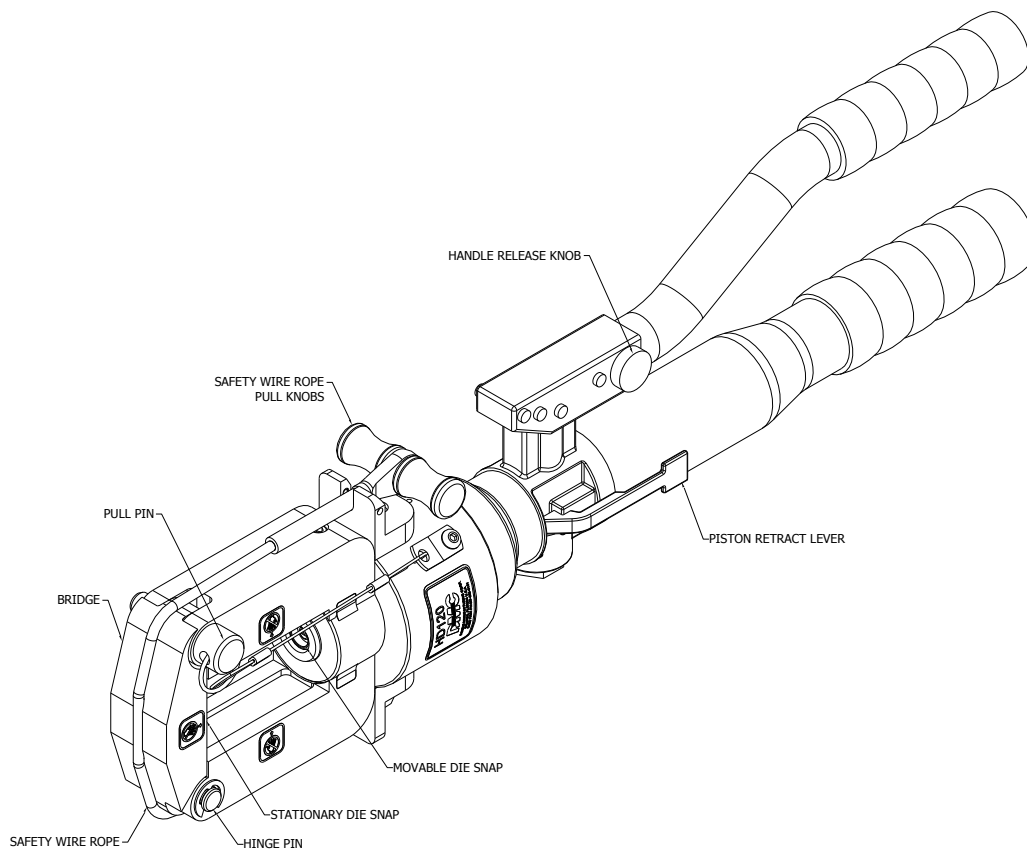

Figure 1
1. Pull the safety wire rope knobs and unlatch the safety wire rope. Un-wrap wire from tool head. See Figure 1.
2. Remove the pull pin to swing the bridge open on the crimp head. See Figure 1